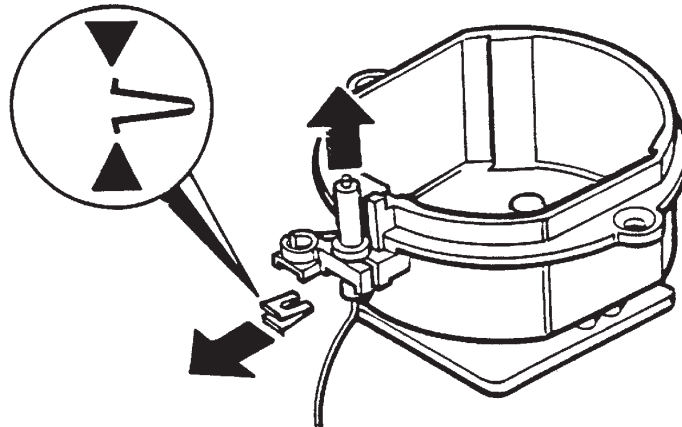

Fig. 29
4. Withdraw clip securing electrode to burner and withdraw lead and electrode (See Fig. 29).